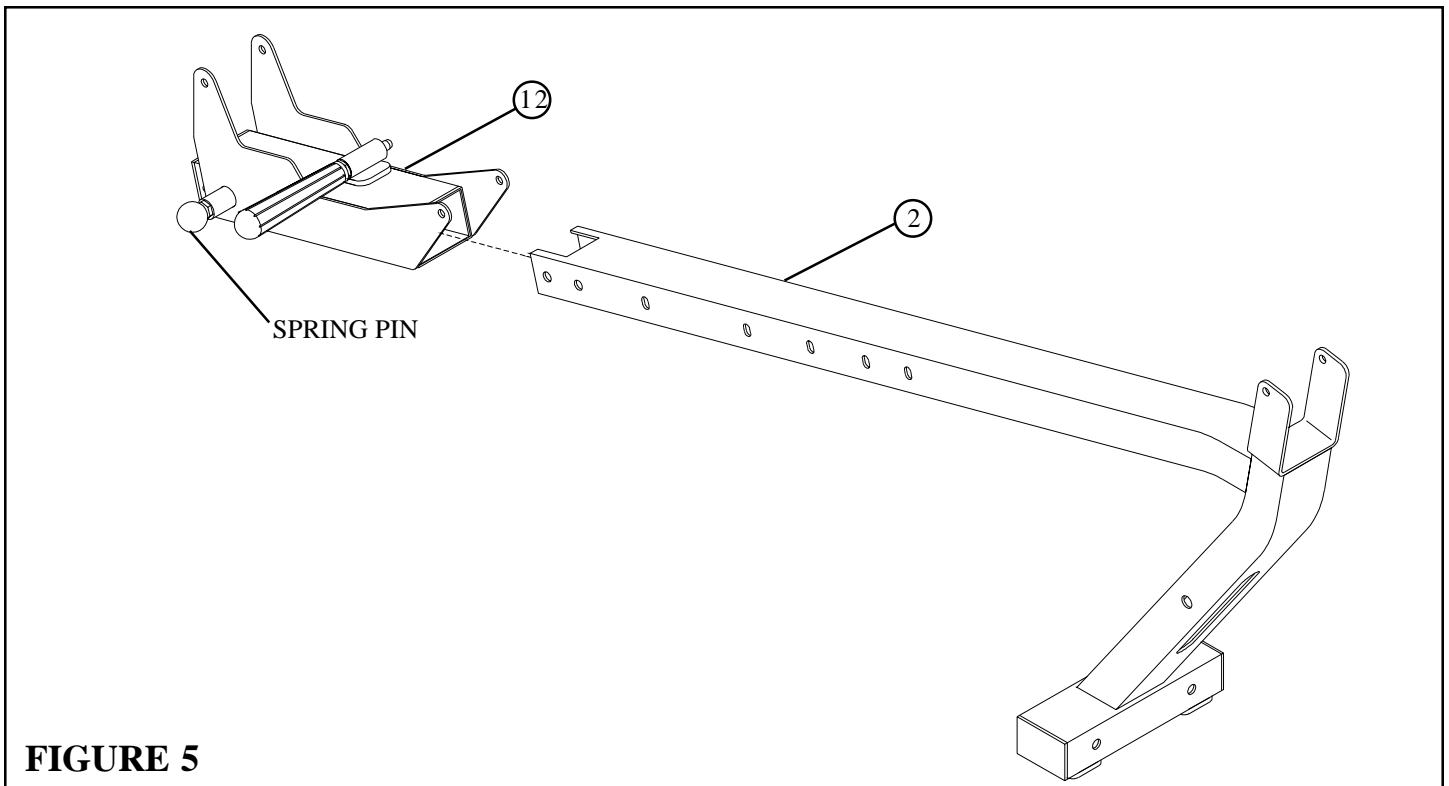

FIGURE 5
- Pull back on the SPRING PIN and slide the ADJUSTABLE SEAT (12) over the BENCH FRAME (2) as shown in FIGURE 5.